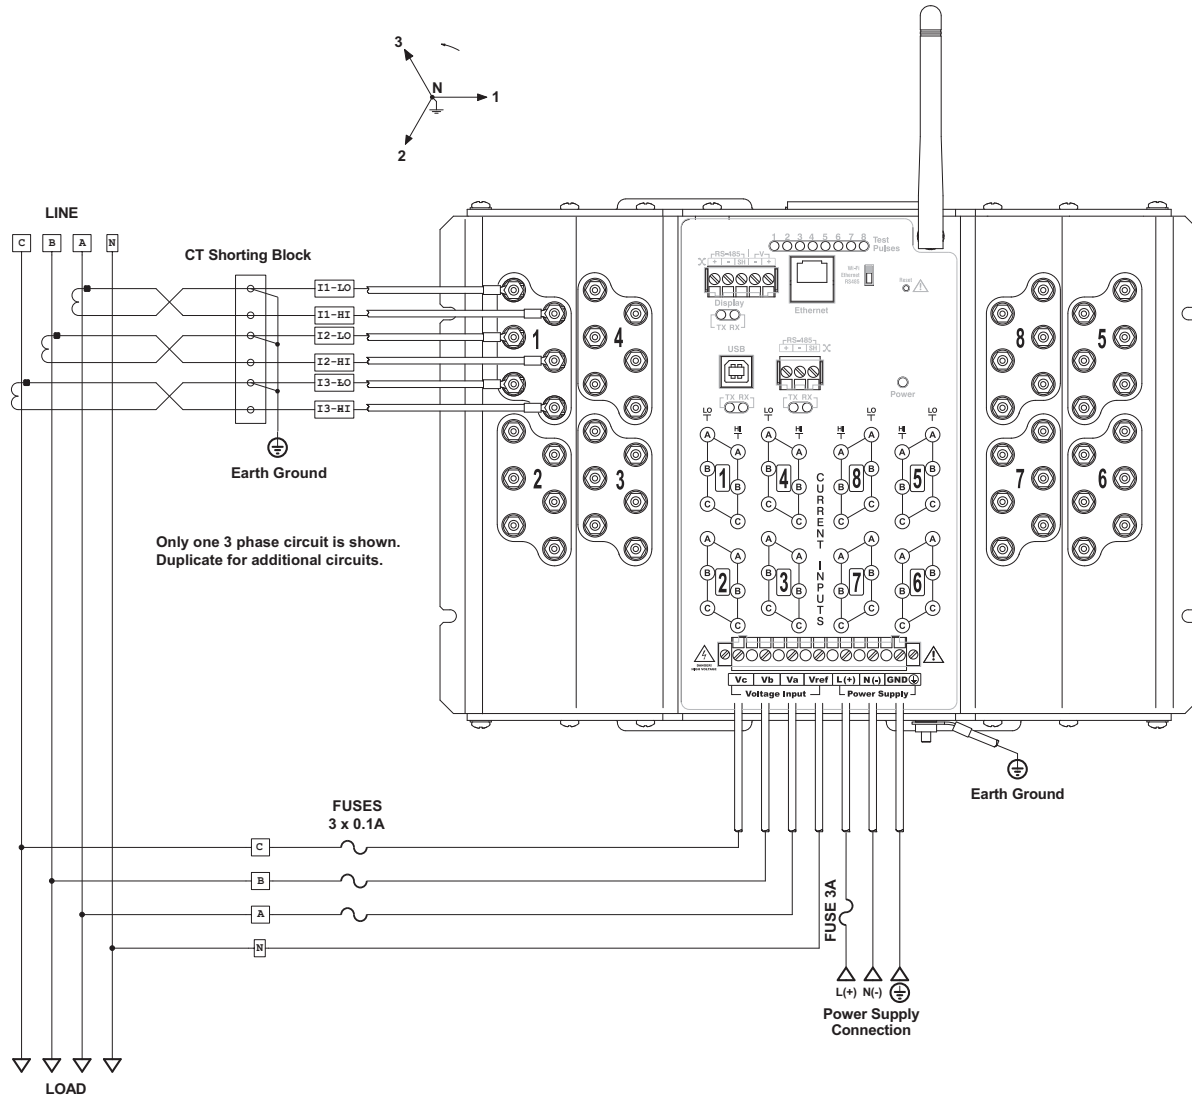

FIGURE 4.5: Three Phase, 4-Wire WYE Service Direct Voltage and 3 CT Connection for Metering 8 Three Phase Loads: EPM 4600-T
3. All shorting blocks are equipped with 4 brass shorting screws stored in the four corners of the base. Refer to Figure 4.5. IMPORTANT! If all 4 brass shorting screws are not on the shorting blocks do not continue until replacements are obtained.